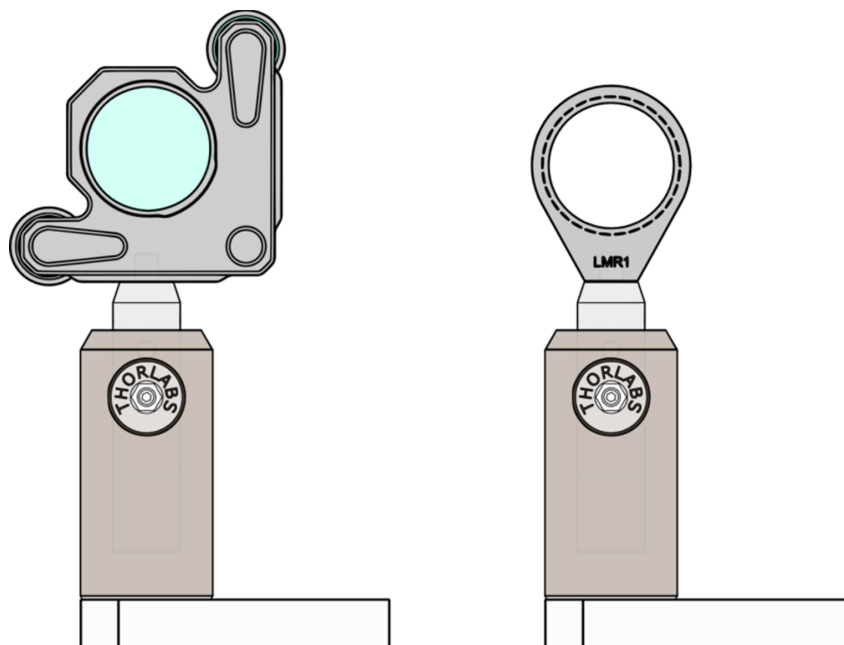

Figure 2: Mounting assemblies for a mirror (left) and a lens (right).
2. Each person in your group is responsible for assembling a mirror as shown in Figure 2. In the end, you will need at least 2 mirrors to complete the next task. **Remember to wear latex/nitrile gloves or finger cots while handling optical components.** Mount one mirror at the far end of the table (opposite the laser) and the second closer to you, so that the laser beam propagates across the table and gives you plenty of space to mount additional components.